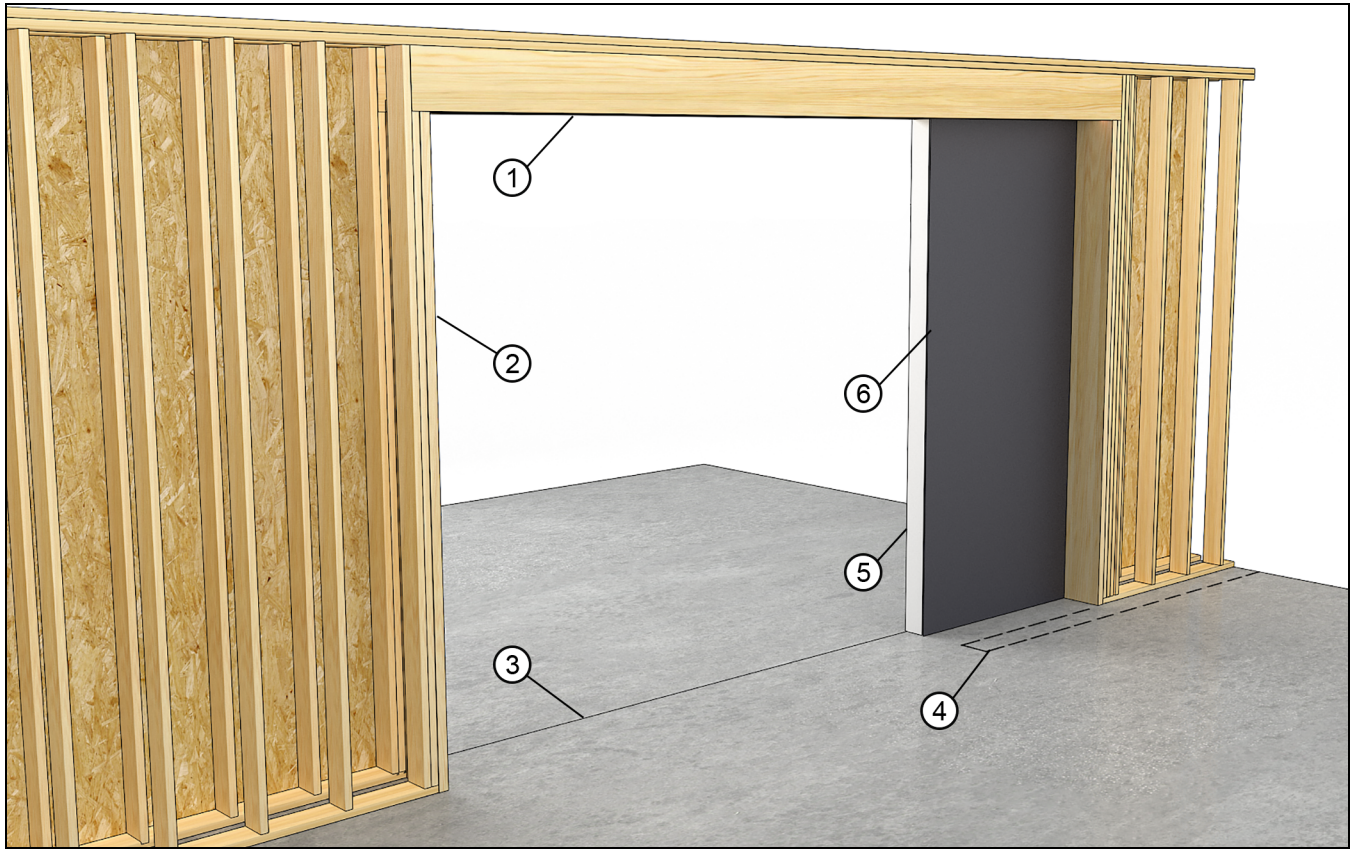

Figure 11 Pocket framing for flush and performance sill shown. (Interior pocket wall not shown) (Construction not typical)
Framing the opening at the header, side jambs, and pocket interlocks for a Multi-Panel Door system vary with both the number of sliding panels that stack at the jambs and the height and width of the panels. The frame must be plumb, square, and true within 3/16" (5). See Figure 11 as a reference in all sections.